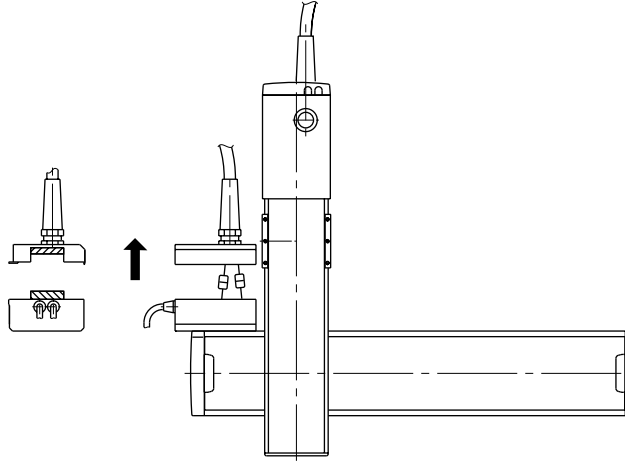

Fig. 8-12
- 1) Remove the small screws (M4, 4 screws) fixing the X-axis wiring box cover, and remove the cover. (Refer to Fig. 8-12.)